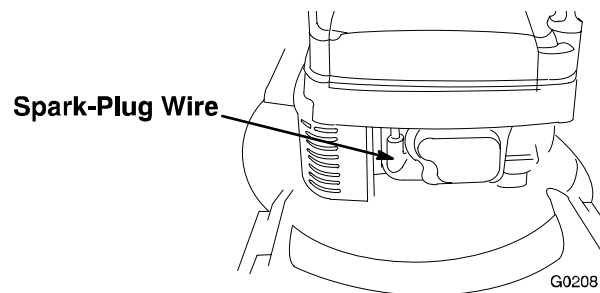

FIGURE 3
- a) Connect the wire to the spark plug. See Figure 3.